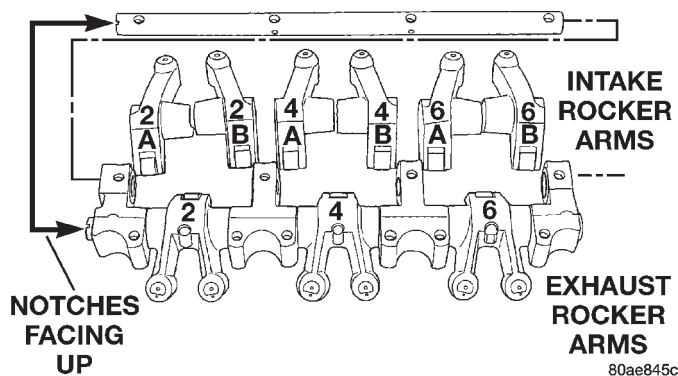

Fig. 55 Rocker Arms and Shaft Identification—Left Bank
(1) Remove cylinder head covers. Refer to procedure outlined in this section.
(2) Identify the rocker arm assembly and rocker arms before disassembly (Fig. 55).
NOTE: The notches on the rocker shafts face up (Fig. 55). Notches on the right cylinder bank face towards rear of engine. Notches on left cylinder bank face toward front of engine.